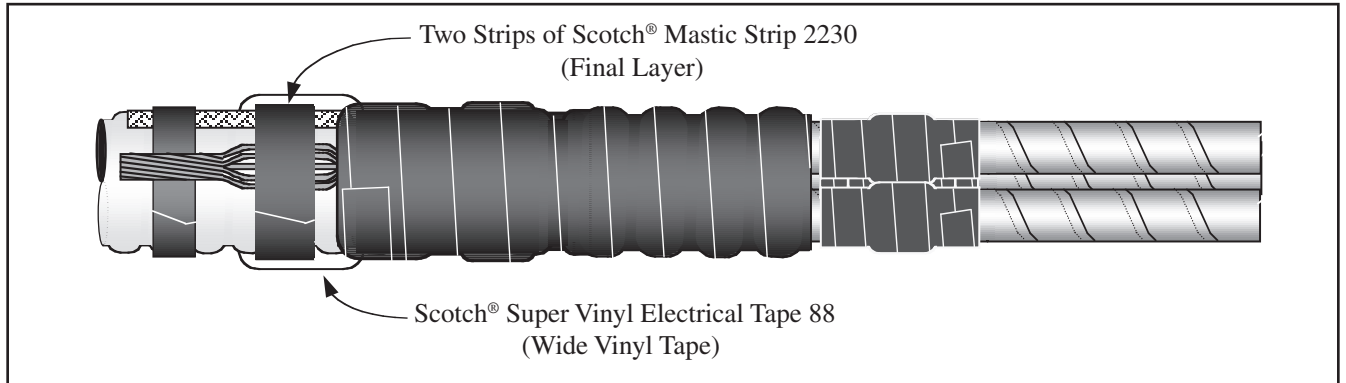

Figure 11
3.14 Wrap two additional strips of Scotch® Mastic Strip 2230 directly over previously applied mastic. (Figure 11).